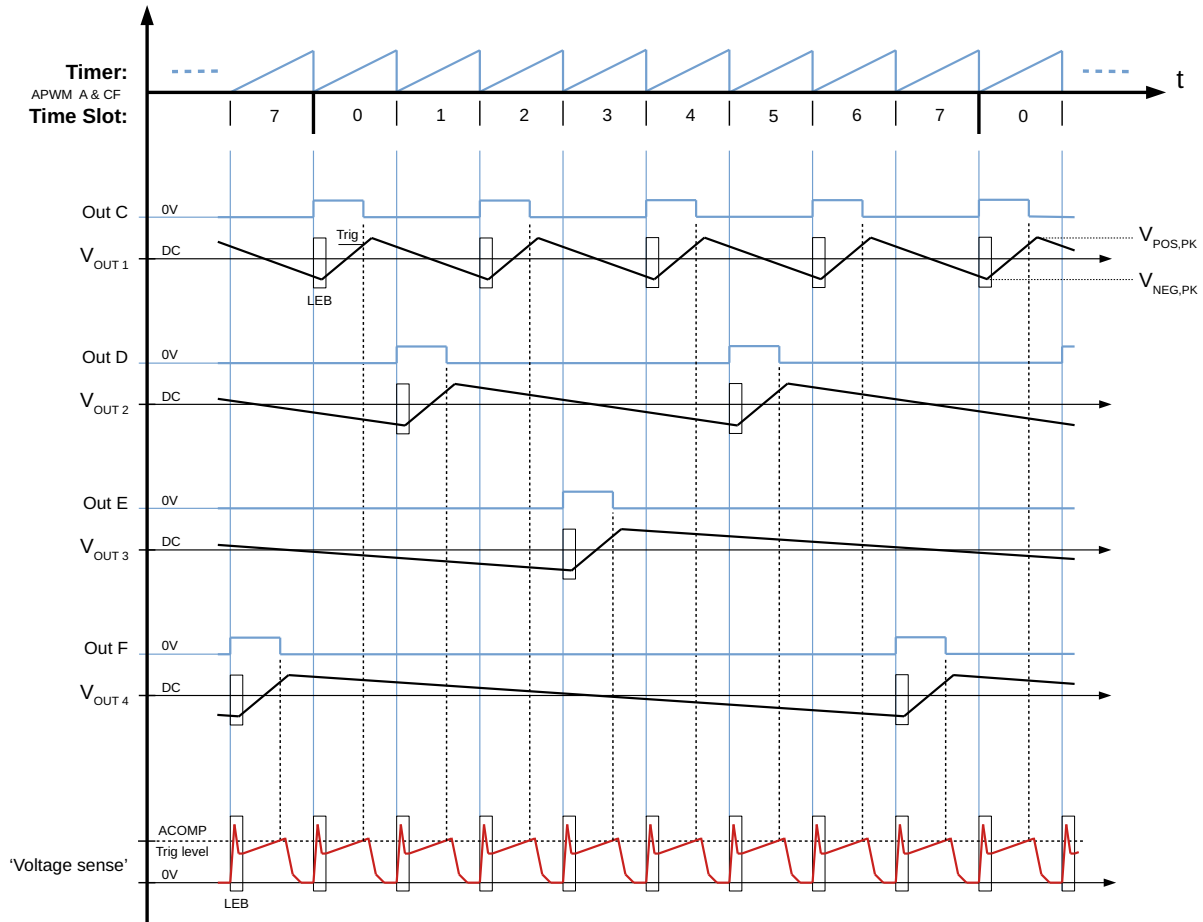

Figure 137. Timing diagram of a multi-converter controller for four output voltages.
Time slot configuration is set to 8 slots in the APWM\_A Timer and the APWM\_CF Timer, i.e., slot 0 to 7 exist. It is critical that both these Timers are configured identically, including their input Tick control from the same Main Timer, see figure 121. In this example, one output voltage uses every second slot, one uses two slots, and the last two outputs use one slot each, see figure 137. For configuration of APWM\_CF, see section 53.4.
In the first time slot in figure 137, Out C turns on and connects its feedback signal to the ACMP input, see the red signal paths in figure 136. The output voltage,  $V_{OUT}$ , for this converter starts to increase. When it reaches the ACMP trigger level, the APWM\_A State signal goes low, which is configured to end the duty cycle in APWM\_CF. Thus, Out C goes low and turns off its power switch. After this slot ends, Out D turns on and connects its feedback signal to the ACMP input. This output voltage starts to increase, and when it reaches the ACMP trigger level the APWM\_A ends the duty cycle so Out D goes low and turns off its power switch. In each of the 8 time slots, the ACMP controls the duty cycle in the active APWM\_CF block in the same way. When the last time slot (7) has been executed, the sequence restarts immediately in the first time slot (0) again.
The output current capability for each output voltage will be according to the single-converter case above, but linearly decreased to be proportional to the number of time slots used for each output. So if all 8 slots would be used for one output, the capability is equal to the single-converter case, but the multiple APWM\_CF concept would obviously be pointless. If half of the slots are used for one output, like for  $V_{OUT1}$  in figure 137, the current capability becomes 1/2. If 1/8 of the slots is used, like for  $V_{OUT3}$  and  $V_{OUT4}$ , the current capability becomes 1/8. Regarding the converter internal power dissipations, the average dissipations from cooling point of view will be reduced by the same slot factors. However, the pulse/peak stresses in the components will stay the same as in the single-output case.